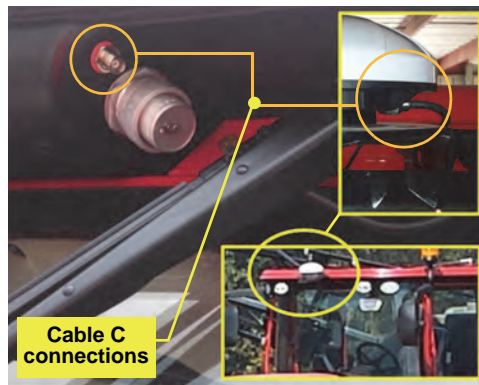

Figure 2b: Antenna external connections
- c. Install the antenna external cable **C** between the antenna's cable connection (top inset) and the antenna connection in the roof overhang, to the right of the windshield wiper (Figure 2b and bottom inset—cable not shown).